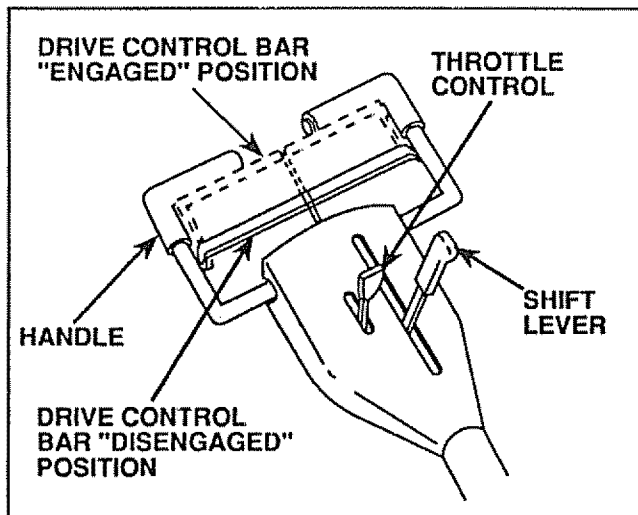

FIGURE 11
- Hold Drive Control Bar against the Handle (Fig. 11) to start Tiller movement.